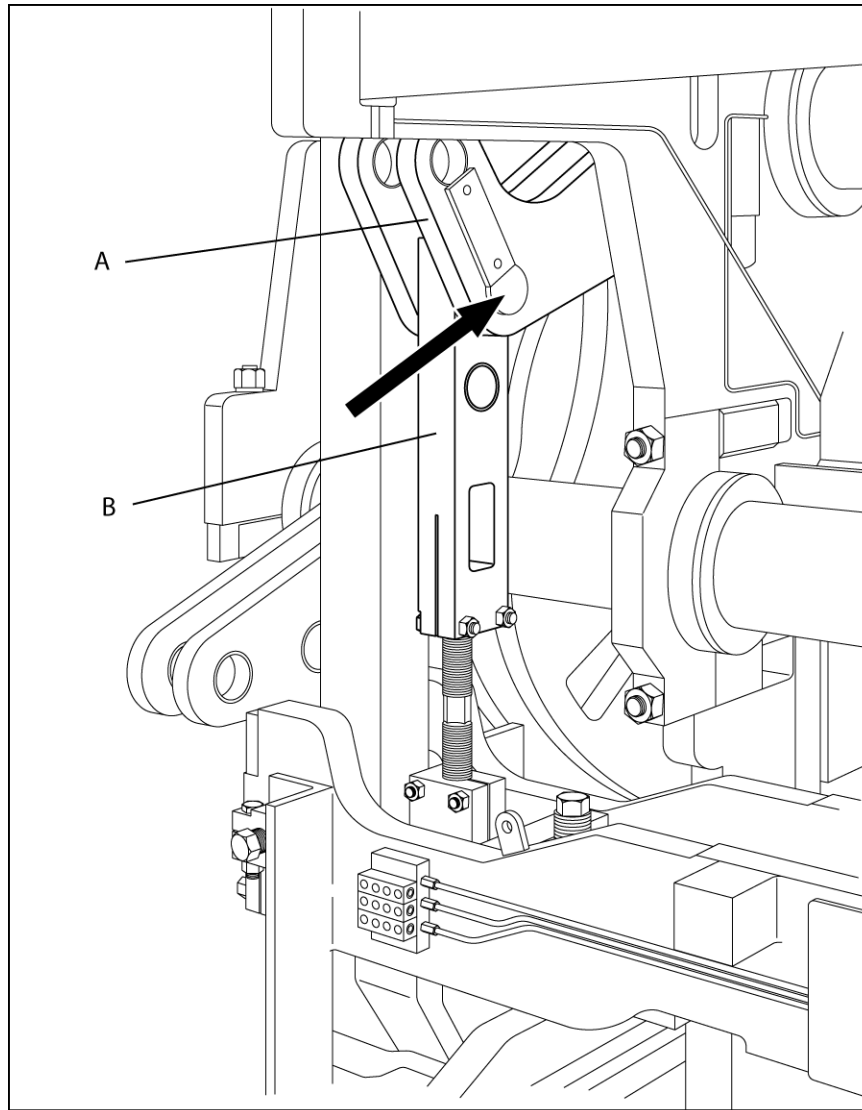

Figure 4.17 STRIPPER HEAD SHAFT AND LINKS
- b. Stripper head shaft (A)- position pins in inside holes (short stroke) (see figure 4.17).
- c. Stripper head links (B)- position pins in top holes. Adjust links to obtain approximately **7 3/4" [197 mm]** (see figure 4.17) between link ends.